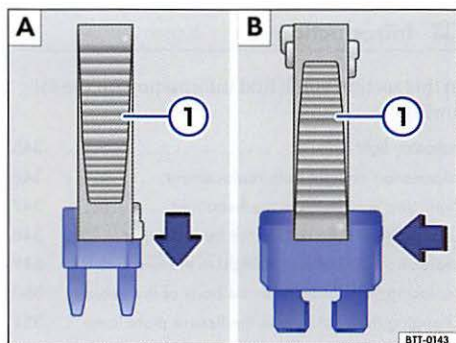

Fig. 191 Removing or inserting a fuse.
- For *small fuses*, slide the clamp onto the fuse from the top $\Rightarrow$ fig. 191 **A**.